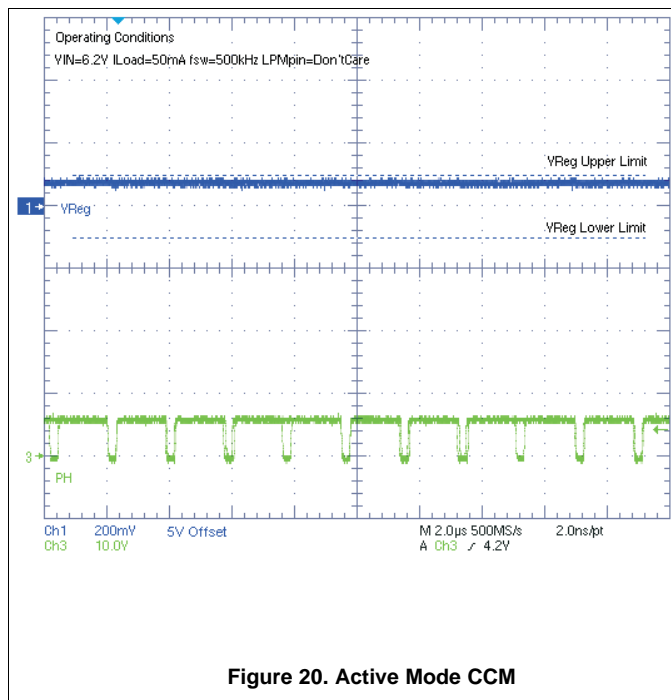
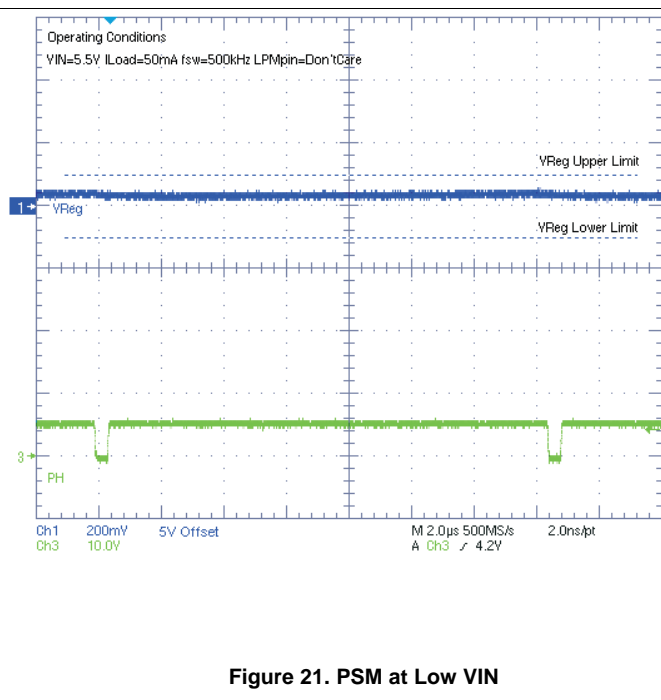

Figure 20. Active Mode CCM
Figure 21. PSM at Low VIN
- At low input voltages when V_{Reg} starts losing regulation and the OFF time (t_{OFF}) of the switching FET tends to be close to or slightly less than the minimum OFF time (t_{OFF_Min}). If OFF time is much smaller than t_{OFF_Min} , there is a risk that the part stops switching and regulation is lost until power is re-cycled with OFF time greater than t_{OFF_Min} . This mode of operation is shown in Figure 21. Comparing Figure 20 and Figure 21, pulse skipping occurs in Figure 21 but not in Figure 20 under similar output loading conditions.